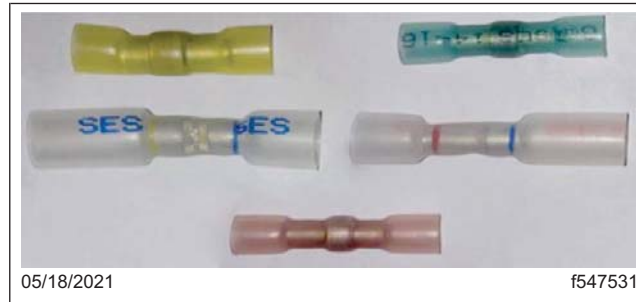

Fig. 12, STA-DRY™ Butt splices
3. Select the appropriate butt splice size based on the wire sizes being connected. See Table 2 and Fig. 12.